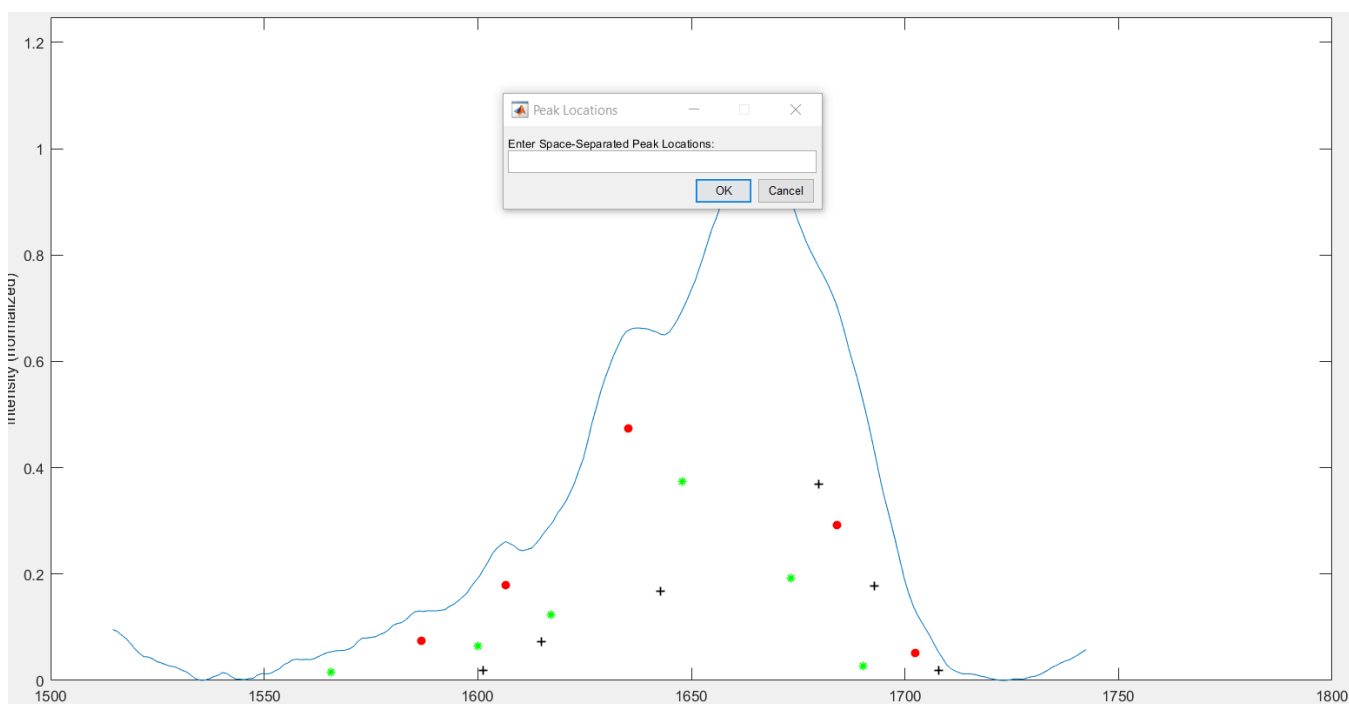

Figure 37: prompt for inputting curve peak wavenumbers.
- If the 'Manually Enter Sub-Curve Peak Locations' option was selected on the control panel, user will be asked to input peak wavenumber for each defined curve after pressing the 'Enter' key. (Fig. 37) Please separate each peak wavenumber by space or comma.